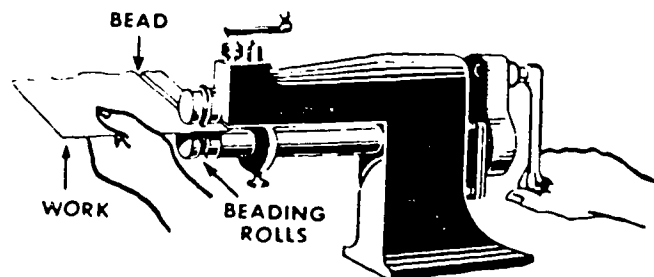

Figure 3-12. Beading machine.
**Beading machine.** The beading machine, shown in figure 3-12, is used for making beads in sheet metal objects such as cans, buckets, and pipes. Beads act as stiffeners and serve as stops for connecting two or more lengths of metal pipe. The beading machine is easy to operate, and with practice, high-quality work can be turned out. It comes equipped with several pairs of rolls which can be removed and replaced in the same manner as the burring and wiring machine rolls. The beading machine rolls that are generally used are single rolls, double rolls, triple rolls, and ogee rolls.